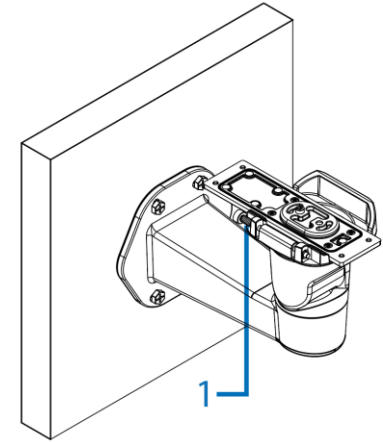

Figure 4
1. Push the pin (1) (Figure 4) from the mounting arm hinge.